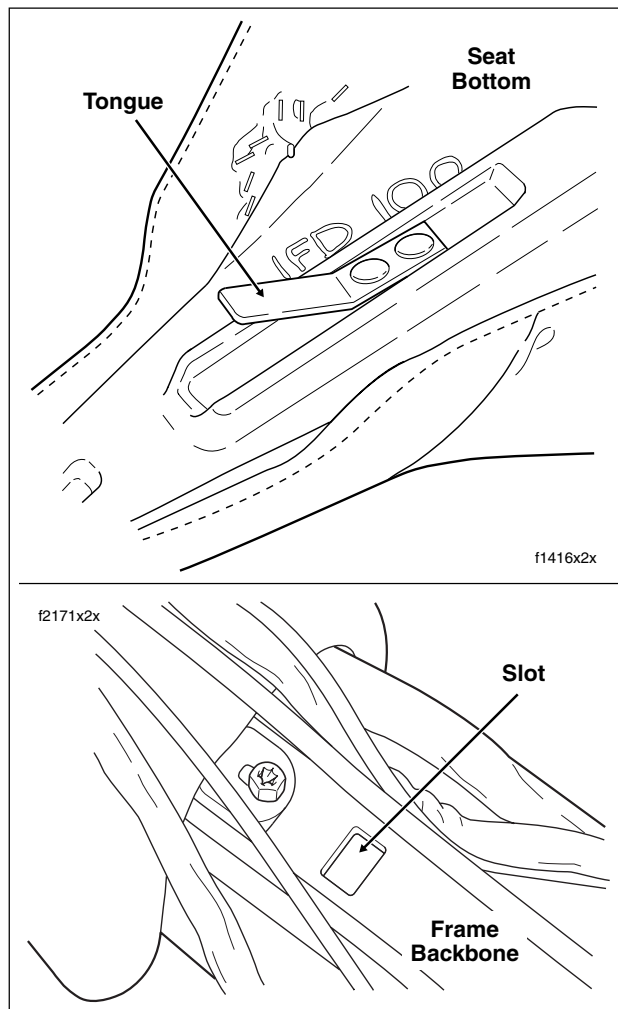

Figure 2-127. Seat Mounting
3. Push front seat rearward to free tongue from slot in frame backbone. See Figure 2-127.
2. Firmly push front of seat downward and rearward until tongue engages slot in frame backbone. See Figure 2-127. Push seat forward until studs are centered in slots of mounting bracket.
5. Push seat rearward to free tongue at front of seat from slot in frame backbone. See Figure 2-127.
2. Firmly push front of seat downward and rearward until tongue engages slot in frame backbone. See Figure 2-127.
4. Push seat rearward to free tongue at front of seat from slot in frame backbone. See Figure 2-127.
2. Push seat rearward to free tongue at front of seat from slot in frame backbone. See Figure 2-127.
4. While pushing seat forward, raise rear of seat until bracket clears top of Tour-Pak. Push seat rearward slightly to free tongue at front of seat from slot in frame backbone. See Figure 2-127.
3. While raising rear of seat approximately 3 inches (76.2 mm), use other hand to firmly push front of seat downward and rearward until tongue engages slot in frame backbone. See Figure 2-127.